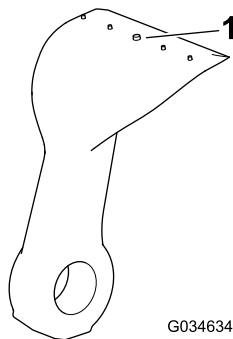

Figure 76
5. Inspect each blade for excessive wear using the wear line (Figure 76). When a blade is worn down to the wear line, replace the blade.